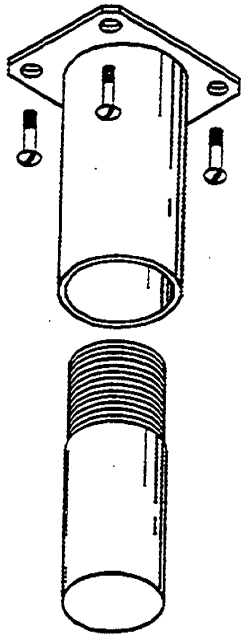

Figure 2-3. CombiCraft Leg Bolts
3. Refer to Figure 2-3 and bolt the legs to the CombiCraft frame. All four legs must be installed for proper mounting of the CombiCraft.